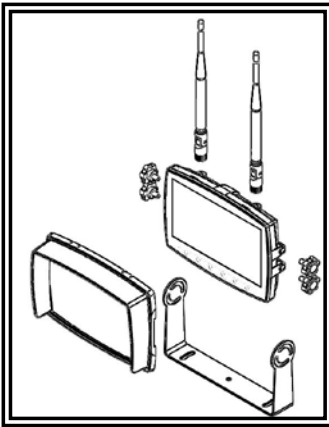

Figure 4
3. Install the monitor on the U-bracket as shown in Figure 4. Adjust the monitor's position for the best viewing angle before tightening the two screws on each end.